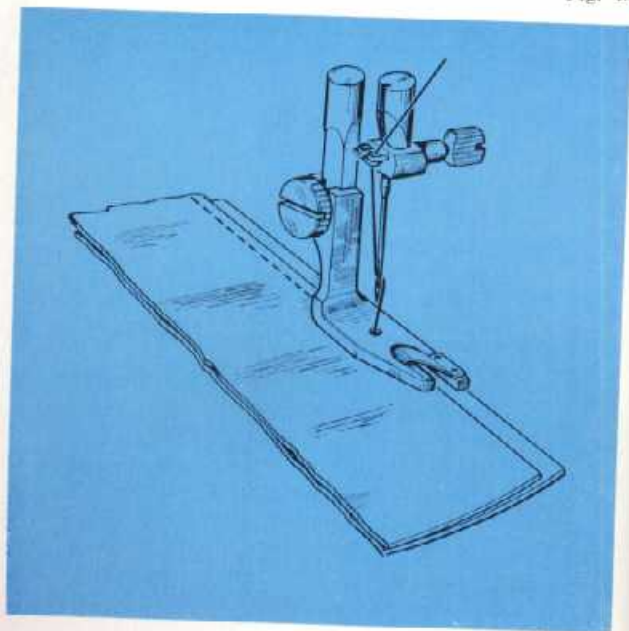

Fig. 46
10. FLAT FELLED SEAMS (Figs. 46 and 47)
Procedure: Place a piece of fabric on top of another piece so that their « right » sides face each other. Right edge of bottom piece should protrude about one-eighth of an inch beyond right edge of top piece (Fig. 46).
Using straight stitch narrow hemmer foot as presser foot, lower foot and sew both pieces of fabric together on a line parallel to right edge of top piece of fabrics. Use edges of protruding toe of hemmer foot to guide edges of top and bottom pieces of fabrics (Fig. 46). Open and flatten out fabrics, « right » sides down, with edges of fabrics standing up.